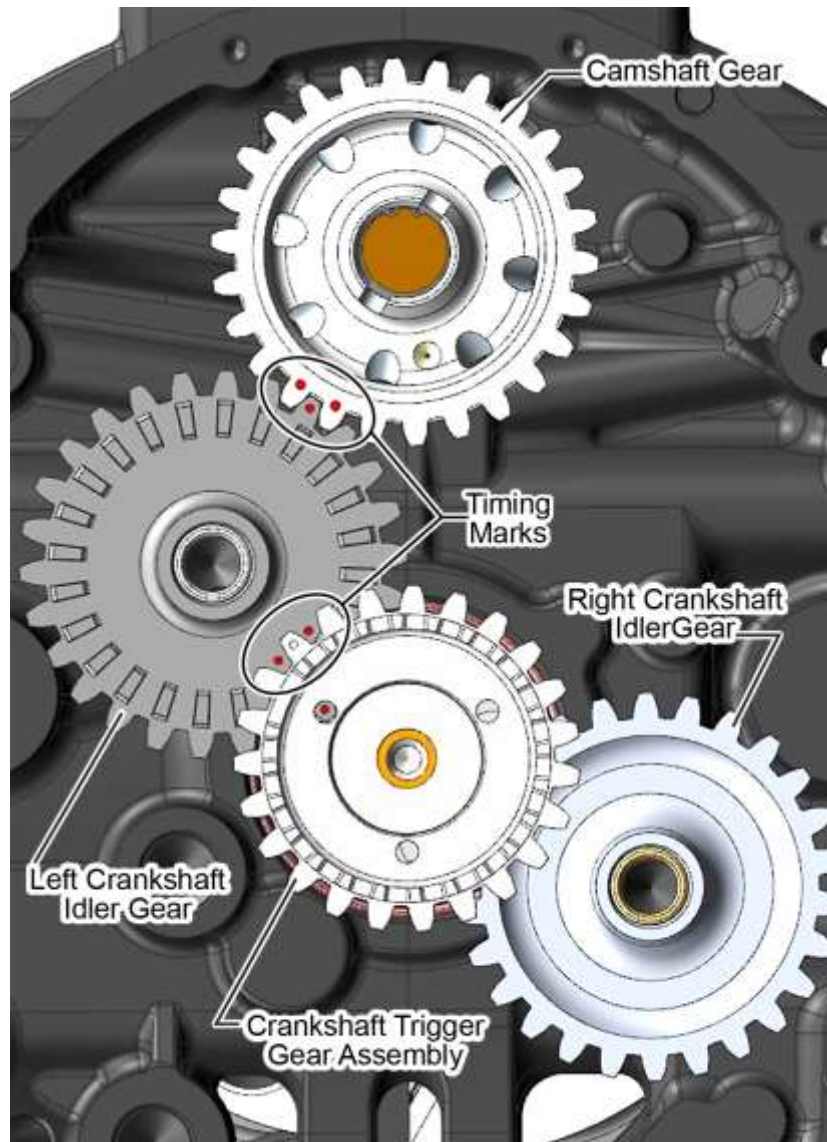

Figure 101
NOTICE: The left crankshaft idler gear, the camshaft gear, and the crankshaft trigger gear assembly all have etched circles, identified below and shown in Figure 101.
- The mark on one gear tooth of the left crankshaft idler gear (Figure 101) must mesh with the space between the marked teeth on the camshaft gear.
A. Turn the camshaft to position the timing marks as shown in Figure 101.
D. Turn the crankshaft until the alignment dowel in the counterbored end aligns with the hole in the crankshaft trigger gear assembly pilot flange. Make sure the timing mark on the gear tooth of the left crankshaft idler gear (Figure 101) aligns with the space between the marked teeth on the camshaft gear.